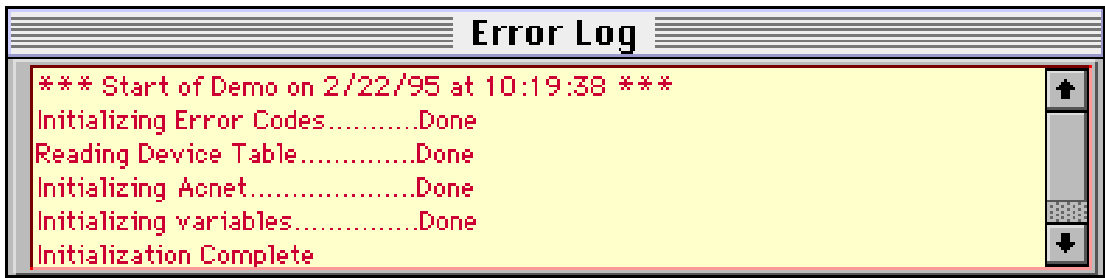

Figure 5. The Error Log
- 2) Automatic. A window is opened at initialization and any error messages are displayed inside this window, no interaction of the user is required. This window also print progress information during startup. This option is useful for remote application where no user is present and possible errors in writing or reading of data are not fatal to the program. See figure 5.